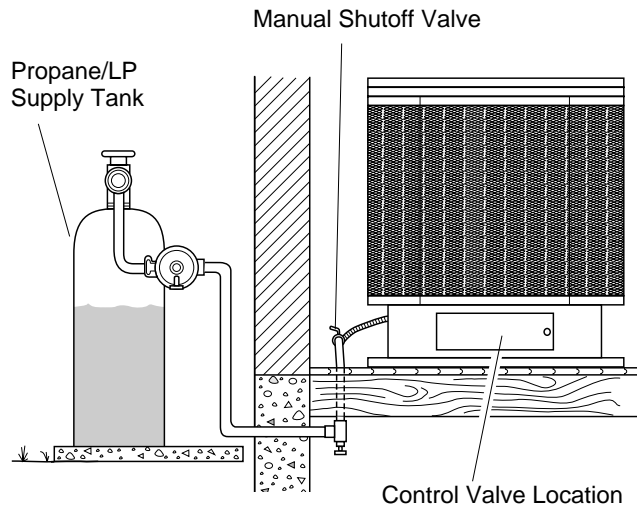

Figure 9 - Checking Gas Joints
3. Check all joints from gas meter to manual shutoff valve (see Figure 9). Apply mixture of liquid soap and water to gas joints. Bubbles forming show a leak.
4. Check all joints from manual shutoff valve to control valve (see Figure 9). Apply mixture of liquid soap and water to gas joints. Bubbles forming show a leak.